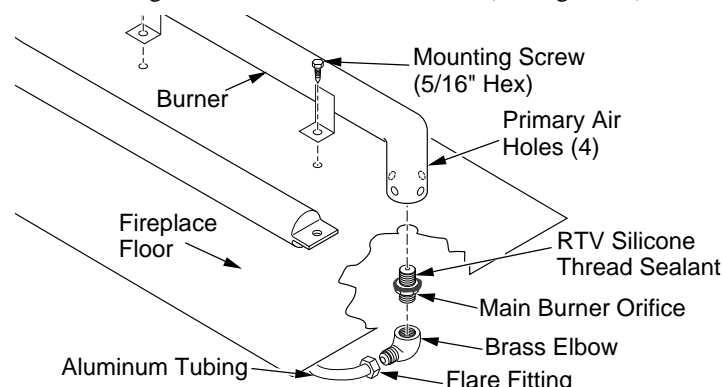

Figure 12 - Removing Main Burner Orifice, Brass Elbow, and Aluminum Tubing
2. Locate gas line connections and gas control valve inside firebox. Disconnect flare fitting connected to the brass elbow from the underside of stove insert. Use a 3/4" open end wrench on the flare fitting (see Figure 12).
5. Remove the burner (located inside combustion chamber) by loosening the two 5/16" hex mounting screws (see Figure 12). Lift burner up and out.
10. Replace original burner with burner supplied with conversion kit. The new burner for propane gas will have four (4) primary air holes near the burner inlet (see Figure 12). Attach with the two 5/16" hex mounting screws removed in step 4.
11. Attach main burner orifice and brass elbow assembly to burner. Place main burner orifice into threaded end of burner and turn clockwise to tighten (see Figure 12). Align the brass elbow with the flare fitting on the aluminum tubing.
12. Reconnect the aluminum tube/flare fitting onto the brass elbow (see Figure 12).
13. Reapply RTV silicone to seal area where orifice passes through the bottom combustion chamber (see Figure 12).